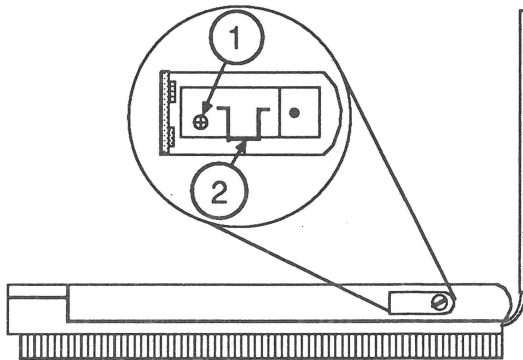

FIGURE 7
4. Once the side door is opened, use a Phillips screwdriver to loosen the screw (Figure 7, #1) that holds the light bulb assembly to the optical block. (The screw does not come out.)
5. Flip up the wire hook (Figure 7, #2) from the vertical position to the horizontal position.